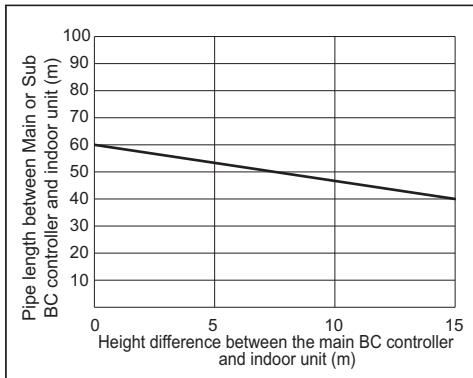

Fig. 2
*9. When the piping length or the vertical separation exceeds the limit specified in Fig. 2, connect a sub BC to the system.
When using indoor models M140 or larger, the restrictions shown in Fig. 2 cannot be exceeded.